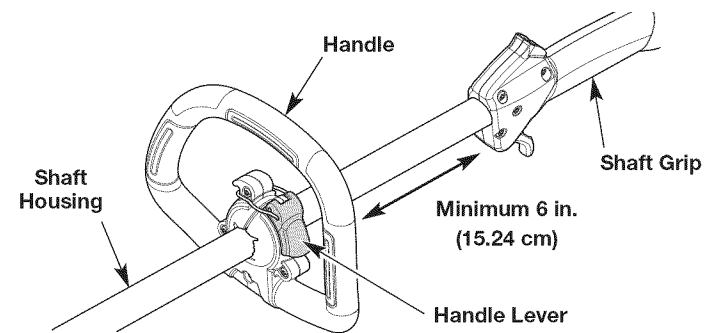

Fig. 2
1. Flip the handle lever up to loosen the handle (Fig. 2).
2. While holding the unit in the operating position (Fig. 12), move the handle to the location that provides the best grip. Place it a minimum of 6 inches (15.24 cm) from the end of the shaft grip (Fig. 2).
3. Tilt the handle as desired (Fig. 2).